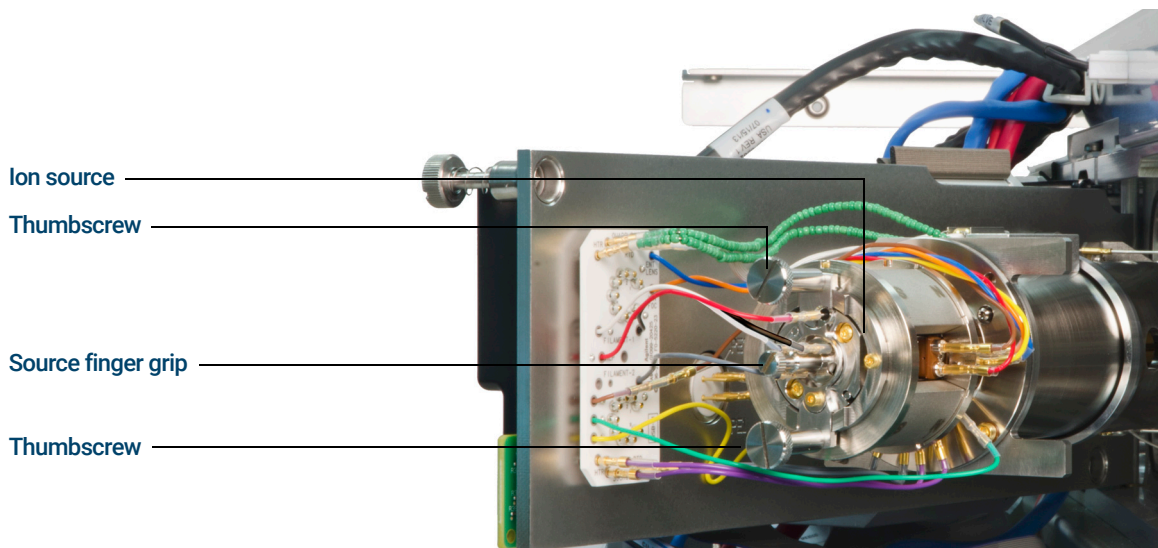

Figure 48. The EI HES before removal
- 3 Remove the two large thumbscrews that hold the ion source in place. (See **Figure 48** on page 160.)
The source contacts have spring loaded pins so some force must be applied to pull the source out. (See Figure 48.)